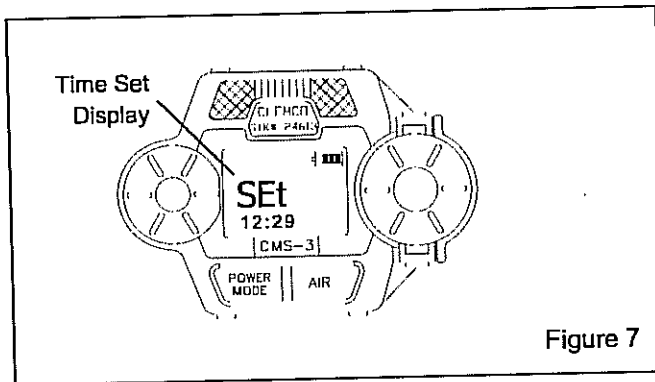

Figure 7
3.7.2 Press and hold the Air button, then press and hold the POWER/MODE button to put the monitor into Time Adjustment Mode. Release the buttons when the word "SET" appears on the LCD as noted in Figure 7. Below "SET", the time will be displayed and the hour in the time will be flashing.